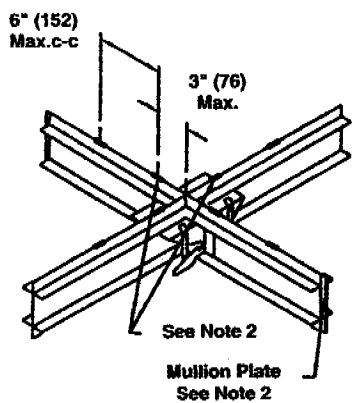

FIGURE 3
Use No. 10 (M5) bolts or screws, 3/16" (5) rivets, tack welds or spot welds as depicted in figures 3 and 4 and spaced as follows when joining individual dampers to make multiple section damper assemblies or when fastening damper to the sleeve: